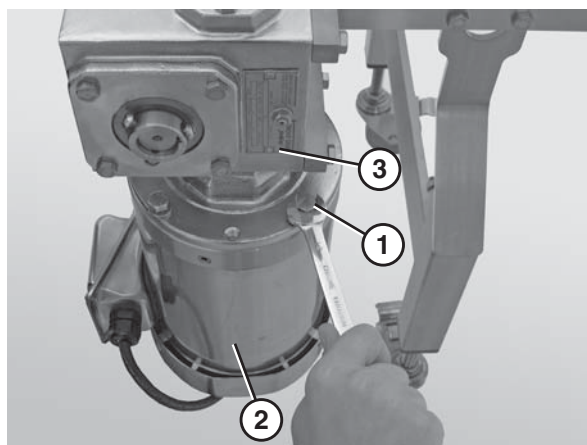

Figure 53
3. Remove the bolts (Figure 53, item 1) that connect the motor (Figure 53, item 2) to the gear reducer (Figure 53, item 3) and remove the motor (vertical mount drive package shown).